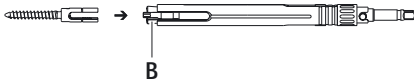

Fig. 4
- Insert the working ends of the pedicle screws into tension sleeve B, see Fig. 4.